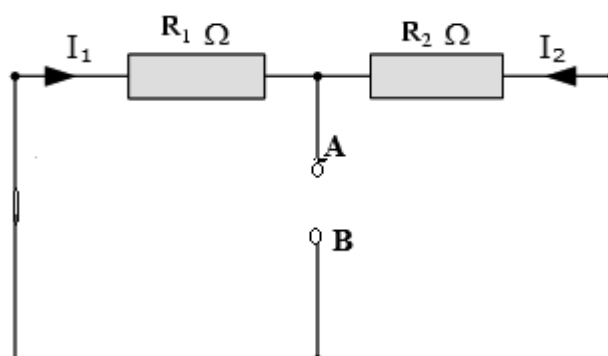

Figure 3
6. Remove both voltage sources by internal resistances or short circuits the terminal of it's and measure the resistance between open terminals A and B (i.e.  $R_{TH}$ ). As shown in figure 3